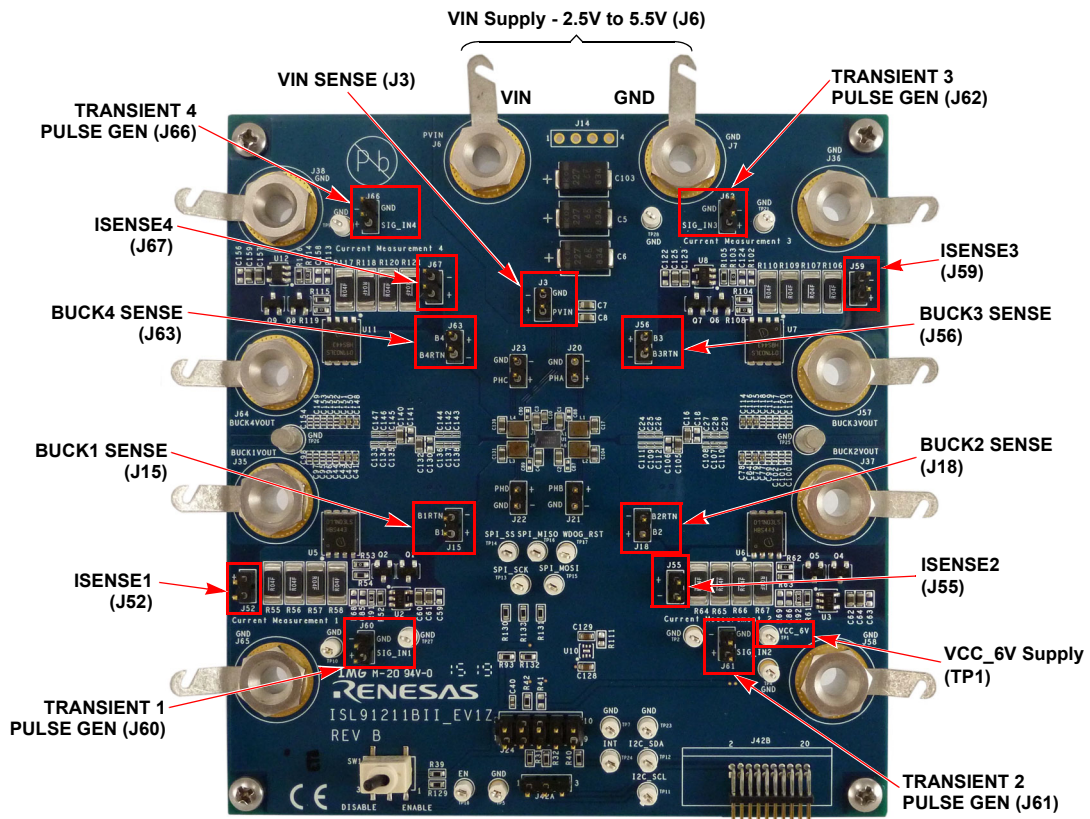

Figure 12. ISL91211BII-EV1Z Load Transient Measurement Connections
6. Set the oscilloscope to measure the rise and fall times and maximum level of the load current. Slowly increase the signal generator amplitude and slew rate until desired load profile is achieved. For detailed setup information, see Figure 12 on page 12.